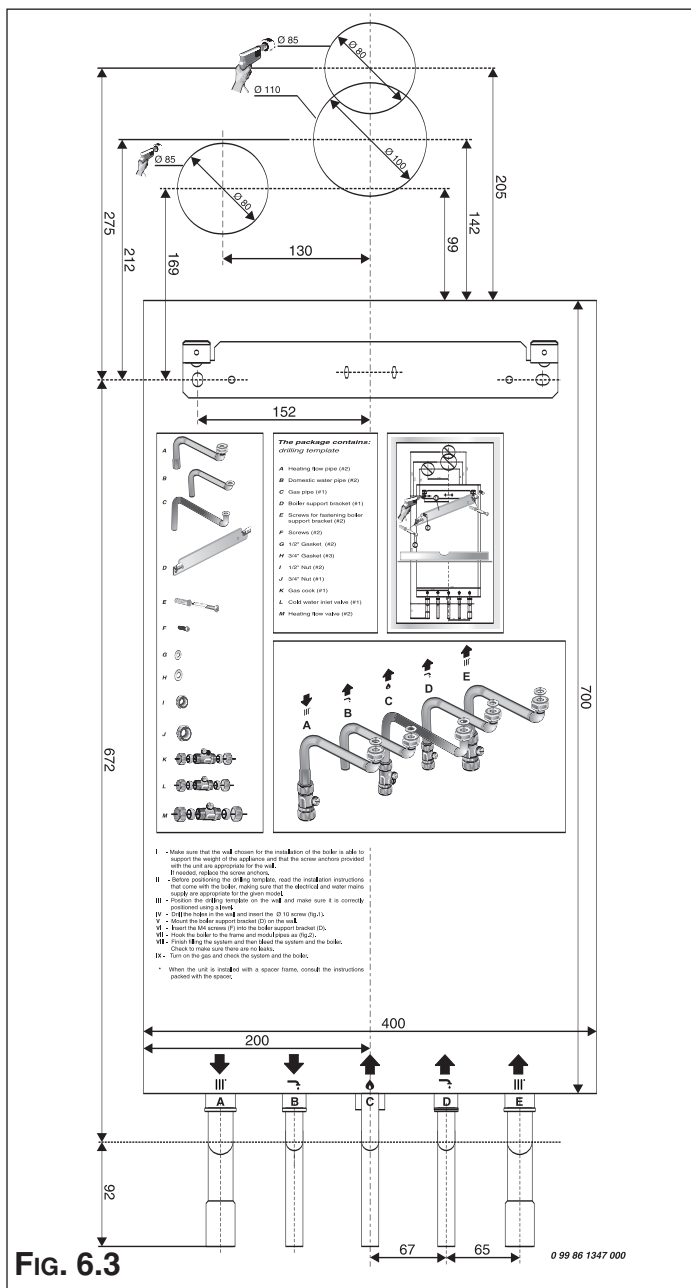

Fig. 6.3
2.5.2. Position the appliance on the hanging bracket and connect the isolating valves supplied in the connection kit as shown on the wall template (see also Sections 6.7 Gas Connections, 6.8 Water Connections & Fig. 6.3).